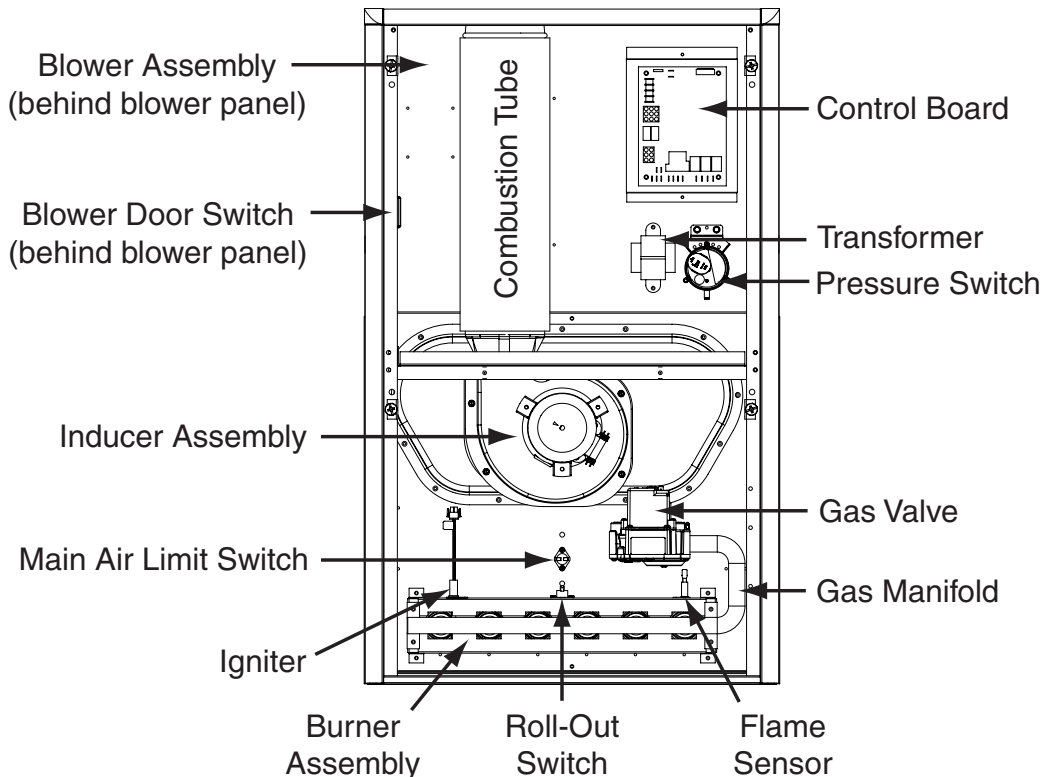

Figure 20. Component Locations
- If the inducer blower is operating and items above have been verified, check the blower limit switch and reset if necessary. See Figure 20, \(page 29\) for component location.
- If the furnace still doesn't operate, check the flame roll-out switch and reset if necessary. See Figure 20 for component location.
The descriptions below are various functional components that affect the operation and shutting down of this furnace. Some of these components and their locations are shown in Figure 20, \(page 29\). If any component of the furnace must be replaced, use only factory authorized replacement parts specified in the Replacement Parts List provided online.